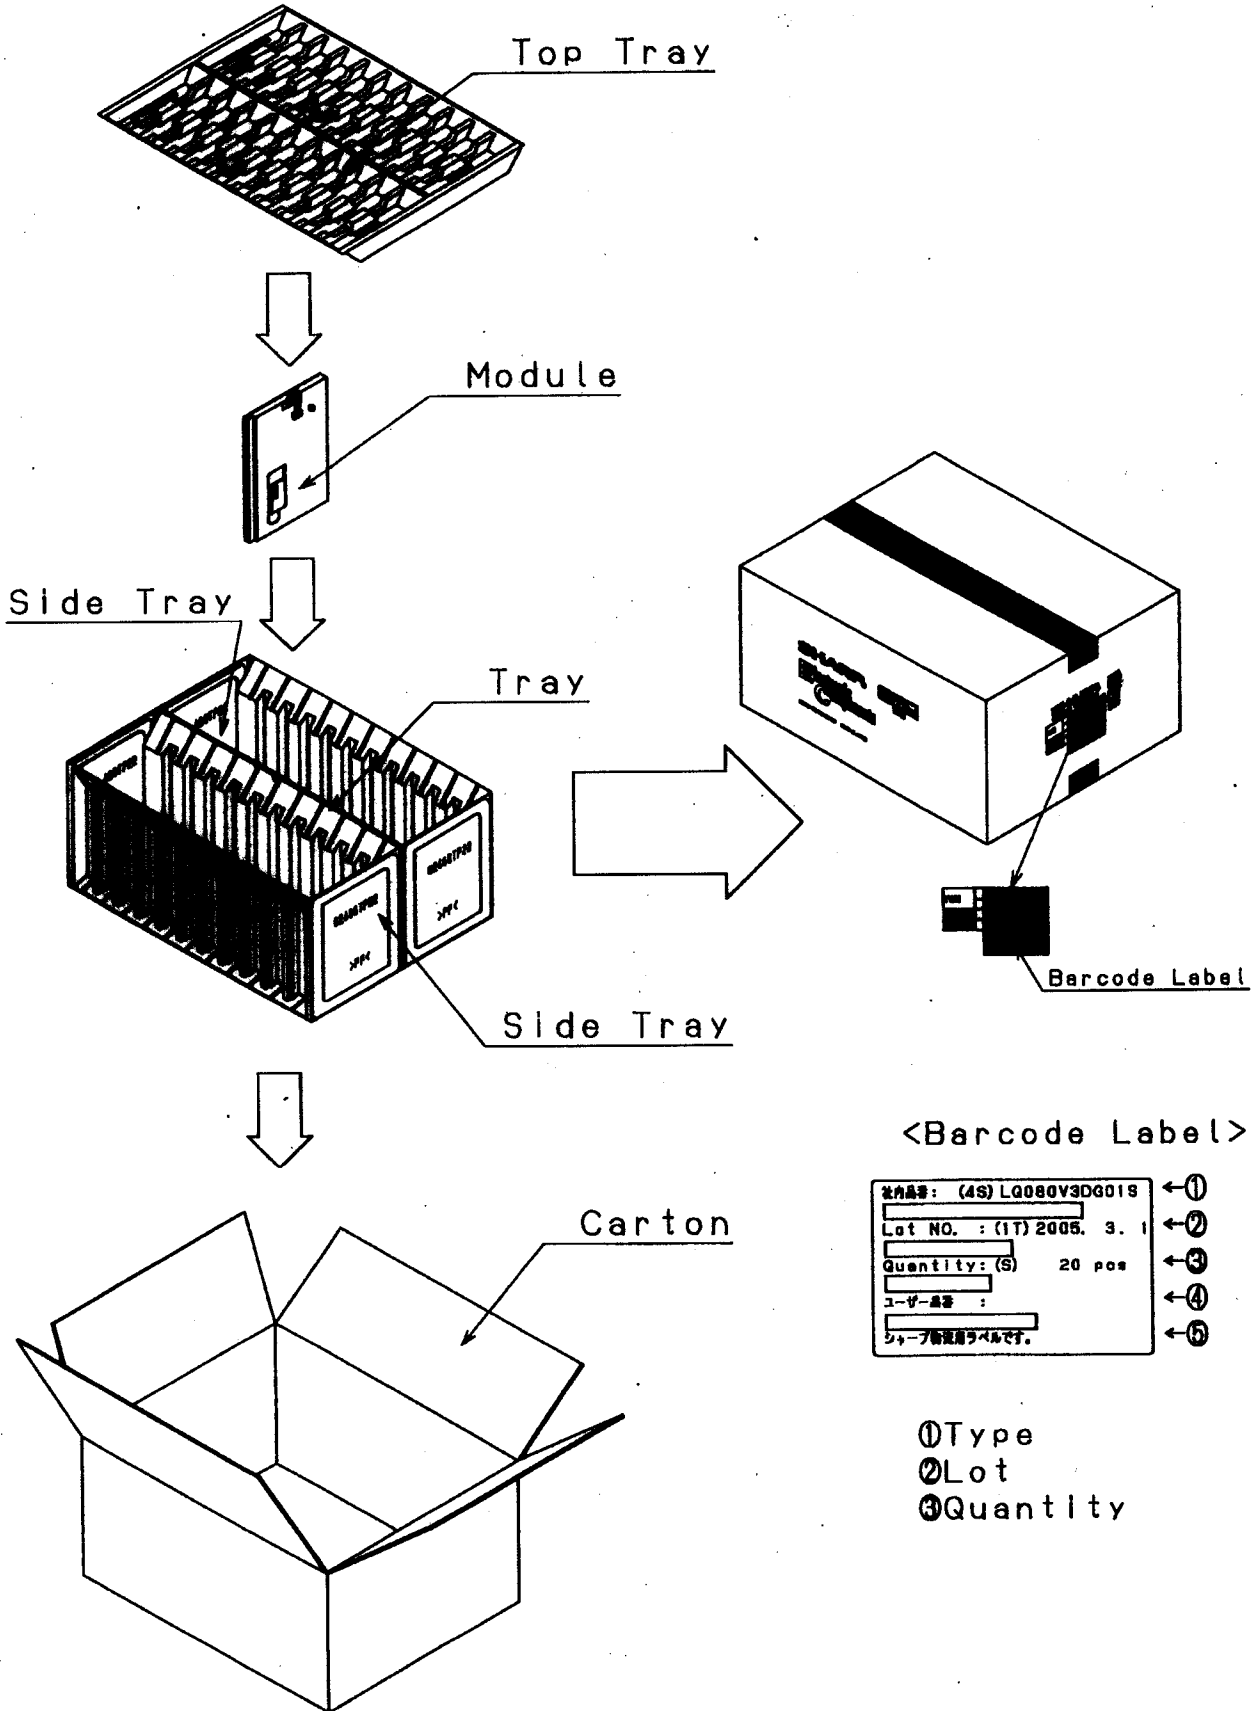

Fig.3 Packaging
12.1 Fig.3 shows packaging form.